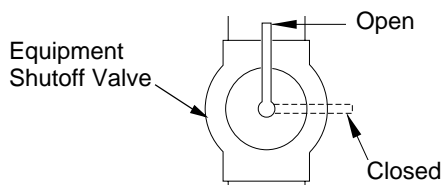

Figure 23- Equipment Shutoff Valve
1. Close equipment shutoff valve (see Figure 23, page 13).
1. Open equipment shutoff valve (see Figure 23).